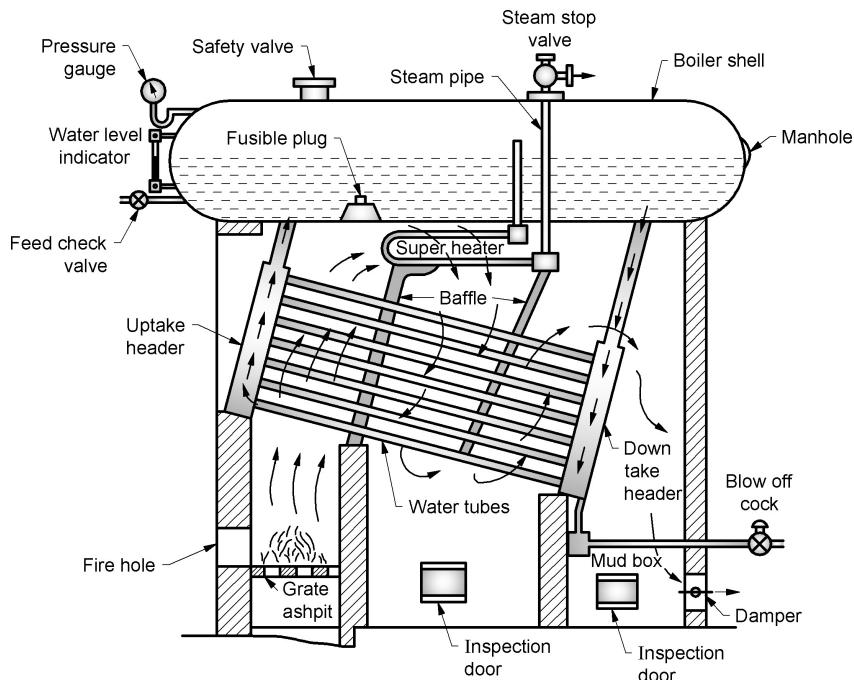

Fig. 1.5 Babcock and Wilcox boiler
- (1) It consists of three main parts: boiler shell, water tubes and furnace. Boiler shell, also known as water and steam drum is made of high quality steel and lies in horizontal position.
- (2) Water tubes are placed below the shell. Shell is connected by short tube with the uptake header or riser and by longer tube with down take header as shown in Fig. 1.5.
- (3) Water level is kept slightly above the centre line of the drum. Water tubes of around 10 cm in diameter are connected to the uptake and down take header and kept inclined at an angle of 15° to the horizontal to promote natural circulation of water.
- (4) The headers are provided with hand holes in the front of the tubes and are covered with caps. The furnace is arranged below the uptake header. A super heater is placed between the drum and water tubes. Baffle plates are provided around the water tubes to improve circulation of hot gases.
- (5) A mud box is fitted to the down header. The impurities in water and mud are collected in the mud box and are blown-off periodically by blow off valve. To access the interior of the boiler it is provided with doors.
- (6) This is necessary for cleaning the outer surface of the water tubes and to remove soot from the surface. The damper is placed at the inlet of the chimney to regulate the draught.
- (7) Various mountings like steam pressure gauge, water level indicator, feed check valve, safety valve etc. are provided for proper functioning of the boiler.
- (1) Water is fed to the drum through the feed check valve. Water flows by gravity and fills the inclined tubes and the headers. Thereafter water is collected in the drum. Coal is fed to the grate through the fire door. Combustion of fuel produces flue gases.
- (2) The hot gases rise upward and pass across the left side portion of the water tubes. The baffles deflect the flue gases due to which flue gases travel in zigzag manner over the water tubes and along the super heater.
- (3) The flue gases finally escape to the atmosphere through chimney. The damper is fitted as shown in the Fig. 1.5 to regulate the flue gas outlet and hence the draught.
- (4) Front portion of the water tubes just above the furnace are at higher temperature than the rear portion of the water tubes. When water is heated inside the tubes it becomes lighter due to decrease in density and rises up in the tube.
- (5) Due to continuous heat supply, some of the water gets vaporised into steam inside the tubes and the mixture of water and steam enters the boiler drum through the uptake header. The cold water from the boiler drum comes down through downtake header and enters the lower end of the water tubes for getting heated further.
- (6) This continuous circulation of water due to temperature difference of water is known as ‘natural circulation’. Steam generated gets collected in the steam space above the water space in the boiler drum. Steam then enters the anti-priming pipe and passes in the superheated tubes in order to remove all water particles.
- (7) Superheated steam is then taken out of the boiler through steam stop valve.